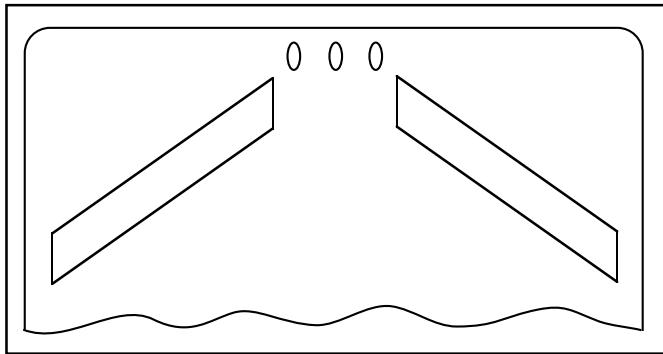

Figure 2.
1. See figure 2. Position one ViewPoint half on the vehicle roof at the desired location. The unit should be positioned with the pods aligned facing forward. In addition, ensure that the unit does not interfere with operation of other apparatus.
3. See figure 2. Position the other ViewPoint half on the vehicle roof. Using the mounting brackets as templates, scribe four drill position marks on the mounting surface.